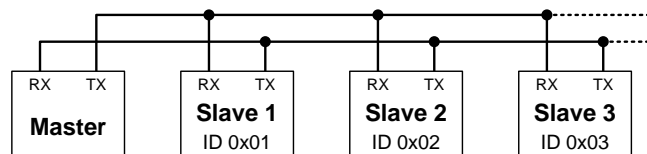

Figure 2: Modbus Network with multiple Slaves
- Form networks of multiple slave devices and one master device (compare figure 2). Make sure that you use a different slave ID for each of the slaves (the group number). Attach the **TX** lines of all slaves to the master's **RX** line and all slave's **RX** line to the master's **TX** line. Visualize the temperature values of all slaves on the master's LCD.